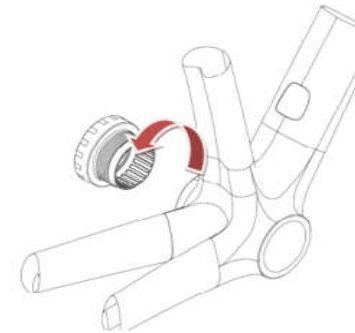

Figure 5
- (1) Adjust the torque of the constant torque wrench to  $(35\pm 2)$  Nm, use the wrench to screw the left cap 1 into the bottom bracket (The non-sprocket side), and tighten the left cap as shown figure 5.